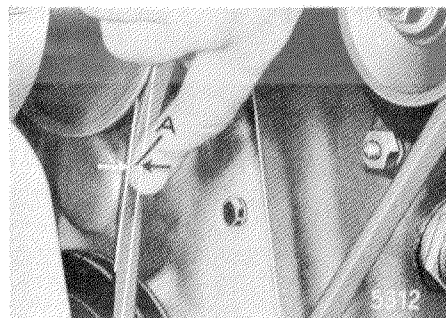

Figure 20-15/3
8. Insert the V-belt and adjust the tension of the V-belt by means of the screw (7) (see Figure 20-15/1).
The tension of the V-belt is correct if the V-belt can be pressed in approx. 10 to 15 mm between the two belt pulleys by moderate pressure (see Figure 20-15/3). Tighten the fixing screws (2) (see Figure 20-15/1).
9. Put the mounting bar (11) over the left-hand fixing stud and fix it with a lock washer, a standard hex nut (1) and a hexagon screw (13) (see Figure 20-15/1).
11. Screw the fan (8) to the belt pulley (9), with 4 screws and 4 spring washers (see Figure 20-15/1).
1. Drive out the centering ring (1) toward the front with hammer punches to the fan bearing bracket (10) (see Figure 20-15/4).
2. Unscrew the hex nut (2) and remove the Woodruff key (3).
3. Pull the fan bearing bracket (10) out of the fan hub (6).
4. Remove the spacer (7), the annular grooved-bearing (8), and the oil-seal ring (9) from the shaft.
5. Take the guard ring (5) and the annular grooved-bearing (4) out of the fan hub (6).